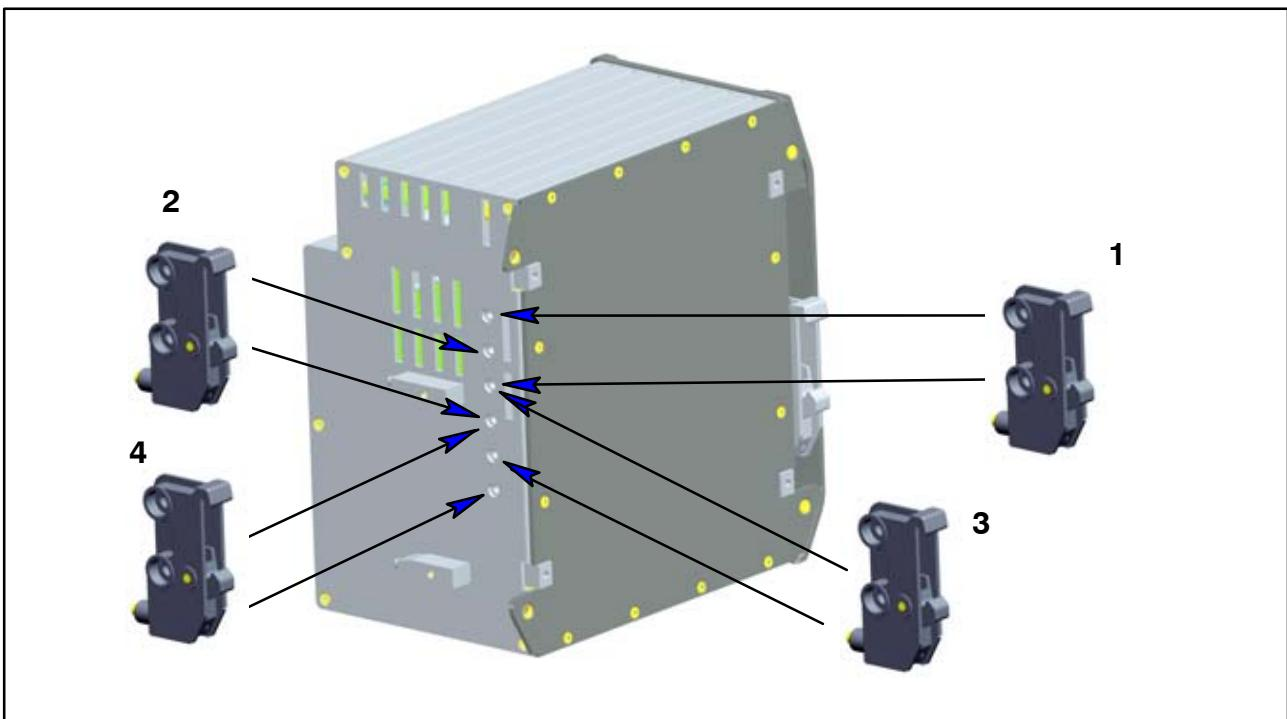

Fig. 6.2: Four positional options for support rail mounting
- Undo the four back-panel screws (cross-recess M3x8) (1)
- Slide the side panels forward (2)
- Screw on the support rail mounting (3) (approx. 5 Nm), in a choice of four positions (two positions for the 7.5 mm support rail), see Fig. 6.2)
- Screw the side panels (2) back on
► Hook the PMX device into the DIN rail (4)